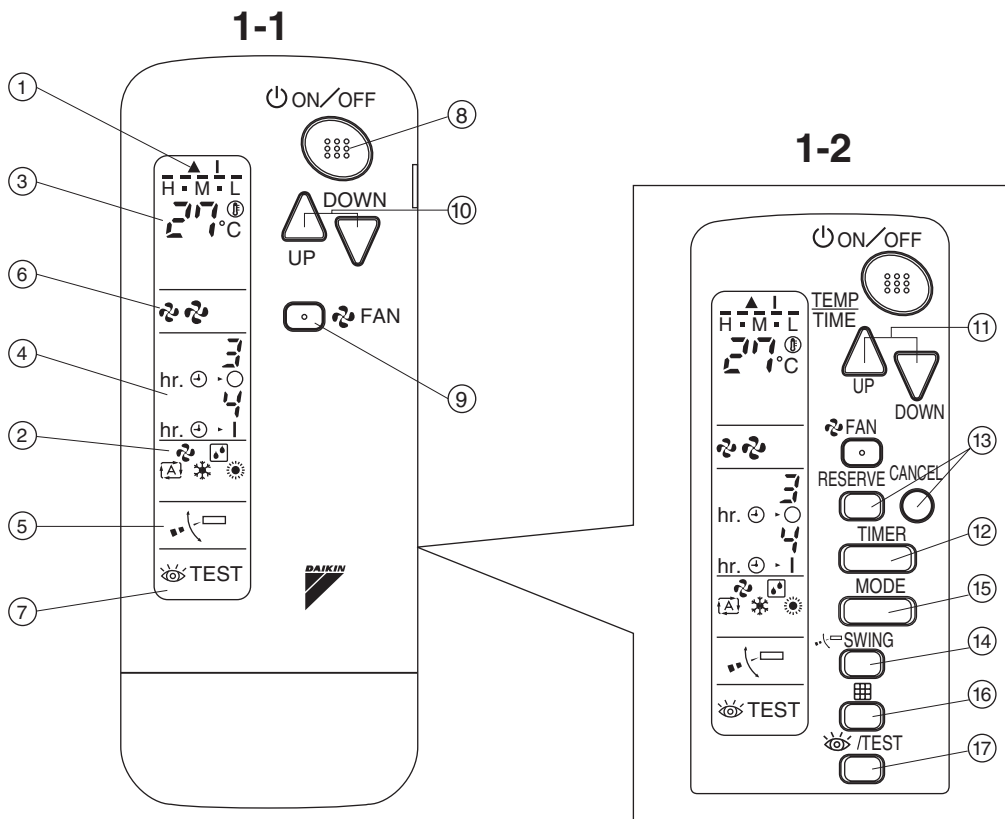

Fig. 1
# 2. NAMES AND FUNCTIONS OF THE OPERATING SECTION (Fig. 1, 2)
- For the sake of explanation, all indications are shown on the display in Figure 1 contrary to actual running situations.